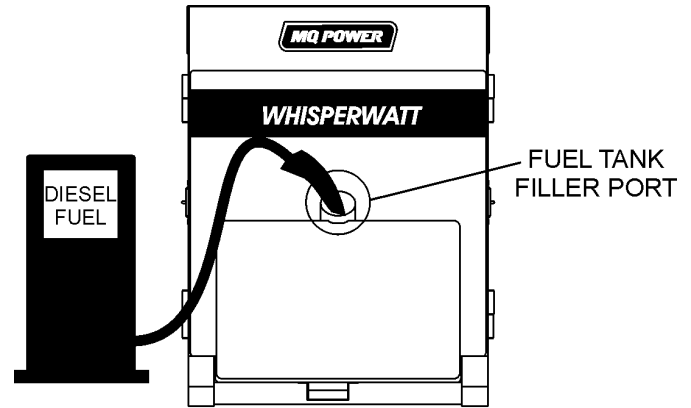

Figure 31. Fueling the Generator
2. Remove fuel cap and fill tank as shown in Figure 31.